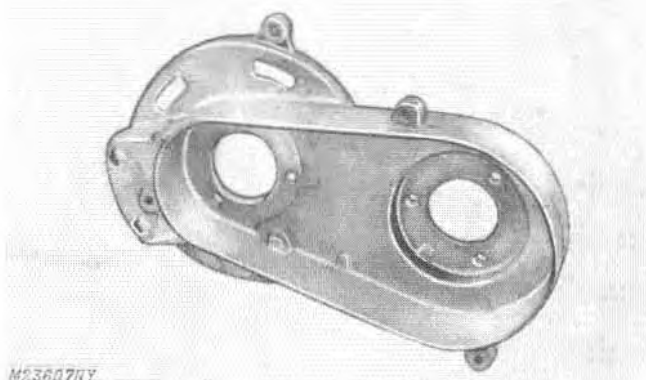

Fig. 22-Inspecting Chain Case
1. Inspect chain case, Fig. 22, for cracks or other damage that could cause chain and sprocket misalignment, or oil leakage.